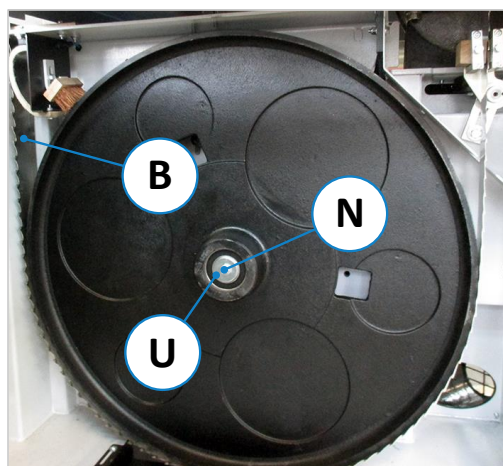

Figure 92: Replacing the drive belts
- Slightly loosen the 4 fastening screws (M) on the motor (spanner size = 19 mm).
- Tighten the tensioning nut (S) on the threaded rod (G) with an open-end spanner SW17 until the correct belt tension is achieved (see also ⇒ Figure 92).
- Remove the hexagon head screw (N) with a SW 19 spanner and take off the washer (U) from the wheel hub (see ⇒ Figure 92).
- Mount the lower wheel and insert the saw blade (B) according to section 10.3.
- Tension the V-belts according to section ⇒ 15.6 and tighten the four motor screws (M) again.